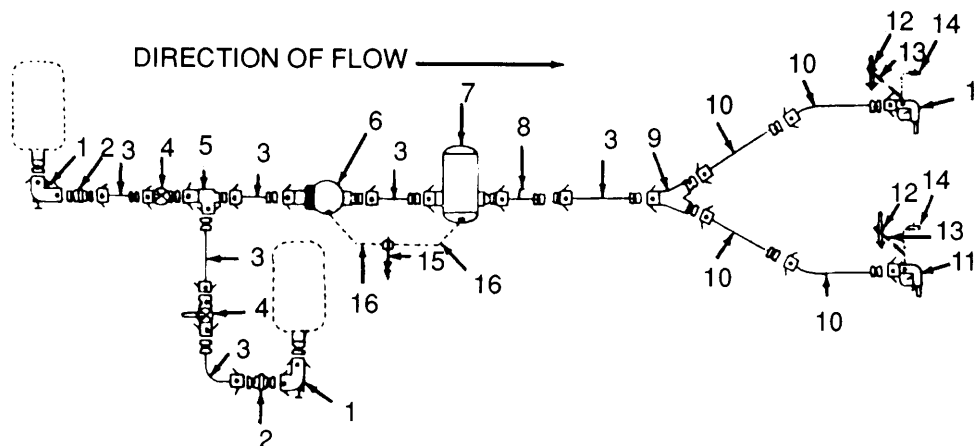

Figure 2-4. FARE Schematic for Two-Point Refueling Operation.
**2-7. ASSEMBLY AND PREPARATION FOR USE.** (Refer to figures 2-4 and 2-5.)
- (1) Select a site that will provide a relatively level terrain.
- (2) Clear away brush, leaves and dry grass from the area where the pump assembly will be operated.
b. Installation for Two-Point Refueling Operation. (Refer to Figure 2-4.)
- (4) Connect adapter (2), male by male, 2 in. by 2 in., to elbow coupler valves.
- (5) Connect suction hose (3) to adapter (2).
- (6) Connect butterfly valves (4) to suction hose (3).
- (7) Connect tee fittings (5) to butterfly valve (4).
- (8) Connect suction hose (3) to tee fitting (5) and pumping assembly (6) inlet connection.
- (9) Connect suction hose (3) to pumping assembly (6) discharge connection and filter separator (7) inlet connection.
- (10) Connect adapter water detector (8) to filter separator (7) outlet connection.
- (11) Connect suction hose (3) to adapter water detector (8) and wye fitting (9).
- (12) Connect two discharge hose assemblies (10) to wye fitting (9). Connect the other two discharge hose assemblies (10). Connect closed circuit nozzles (11) to discharge hose assemblies (10).
**c. Grounding Procedures (Refer to Figure 2-4)****NOTE**